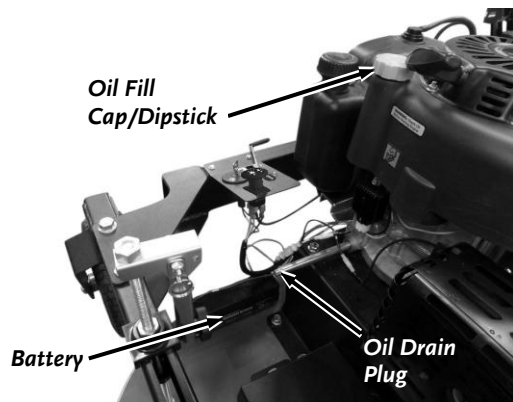

Figure 40
1. Remove the Oil Fill Cap/Dipstick (**Figure 40**).